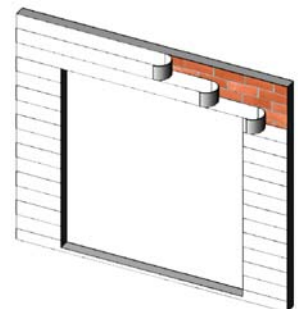

Figure 35:
4. Weather resistant building paper should be applied in a weatherboard fashion to complete the installation (Figure 35).